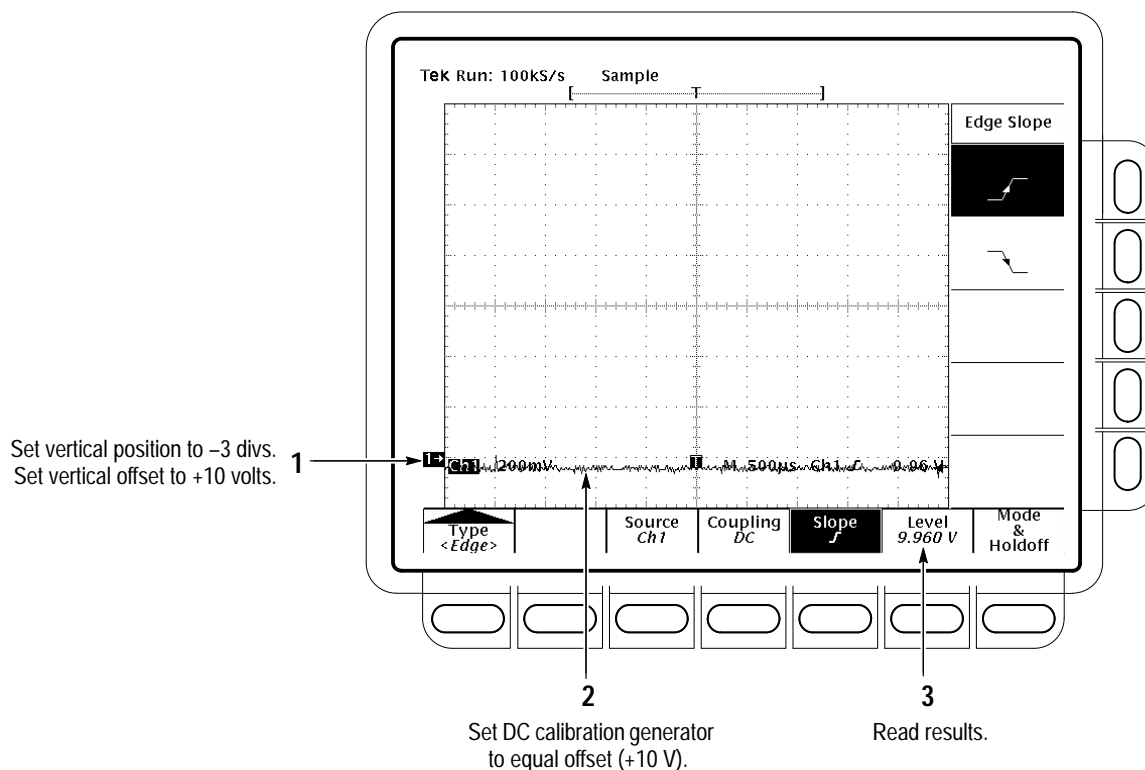

Figure 1–17: Measurement of Trigger-Level Accuracy
c. *Read results (Check against limits):* See Figure 1–17.